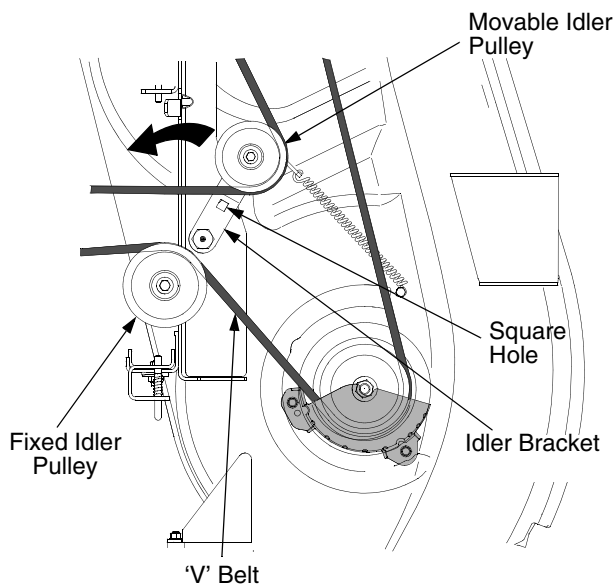

Figure 27
- From beneath the middle of the tractor, insert a 1/2 inch ratchet into the square hole of the deck idler bracket. See Figure 27.
- Using the ratchet for leverage, pivot the idler bracket and movable idler pulley away from the backside of the 'V' belt; then lift the belt off of both the movable and fixed idler pulleys. See Figure 27.
- Route the backside of the belt around the fixed idler pulley of the deck. Refer to Figure 27.
- Insert a 1/2 inch ratchet into the square hole of the deck idler bracket. Refer to Figure 27.
- Using the ratchet for leverage, pivot the idler bracket rearward against the spring tension and slide the backside of the belt onto the movable idler pulley. Refer to Figure 27.